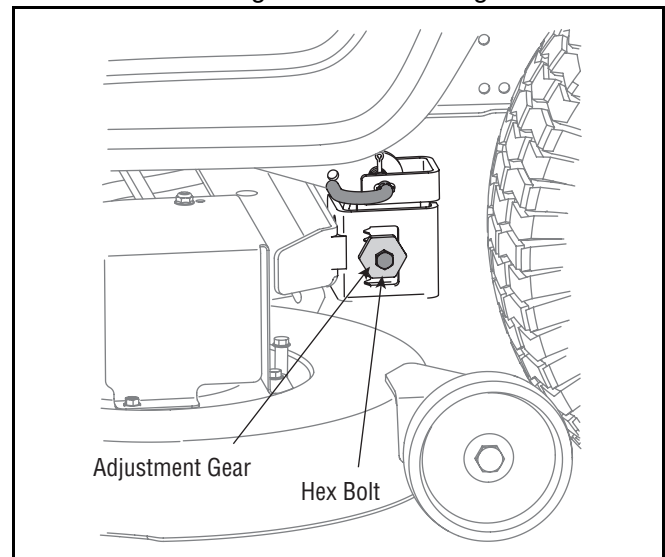

Figure 16
- Locate the two lock nuts on the front side of the stabilizer bracket. See Figure 16. Tighten the lock nuts to raise the front of the deck; loosen the lock nuts to lower the front of the deck.
- Loosen, but do NOT remove, the hex cap screw on the left deck hanger bracket. See Figure 16.